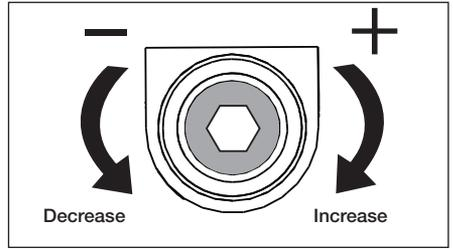

Figure 14, Relief Valve Adjustment Screw
- Using a 7/32" Allen wrench, loosen the relief valve adjustment screw about 2 turns. See Figure 14.